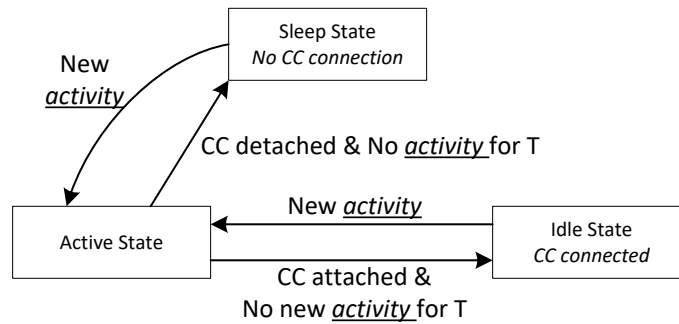

Figure 8-33. Flow Diagram for Power States
The TPS25751A can operate in one of three different power states: Active, Idle, or Sleep. The Modern Standby mode is a special case of the Idle mode. The functionality available in each state is summarized in Section 6.7. The device automatically transitions between the three power states based on the circuits that are active and required. See Figure 8-33. In the Sleep state, the TPS25751A detects a Type-C connection. Transitioning between the Active mode to Idle mode requires a period of time (T) without any of the following activity: